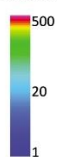

Figure 1 – Rochford Trend Copper Geochemical anomalies⁴. See Figure 2 for inset.
Drill testing of the Bijoux target in the southern Rochford Trend was recently completed and this report is a preliminary summary of encouraging observations of copper mineralisation in seven of those RC drill holes (refer **Figure 1 Rochford Location Plan**).
The Rochford Trend is a 30km trend with copper and VTEM anomalies extending from the Little Boppy and Black Range prospects in the northwest to south of Bijoux in the southeast (**Figure 1**). The Company is undertaking an extensive geochemical sampling program over the Rochford Trend which has generated significant copper (Cu) geochemical anomalies⁵. One of these is the Bijoux Prospect, where a 1.6km x 0.6km copper anomaly was defined by infill and extensional auger drilling and where follow-up reverse-circulation (RC) drilling was recently completed.
The multielement results for these intercepts demonstrate a Cu-Ag±Mo±Bi association, which is relevant because both Ag and Mo are pathfinders for the Canbelego Main Lode copper deposit located 9km along strike to the NW on the Rochford Trend (**Figure 1**). The Canbelego Main Lode has a Mineral Resource of 1.8Mt at 1.74% Cu containing 32kt of copper⁷.
Figure 1 above (Rochford Trend Copper Geochemical anomalies), is an updated version of Figure 1 from Helix's ASX Announcement dated 22 November 2023 which reported on the new copper anomalies emerging. This version has been expanded to include all of the copper anomalies which are listed in **Table 3** below, which was also included in that previous ASX release. The Company is currently undertaking further auger sampling and geological field verification of the anomalies.